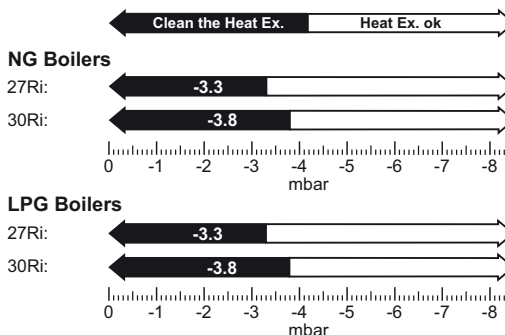

Fig. 67 Fan pressure readings
- ▶ The pressure will read negative, refer to the chart in figure 67 below.